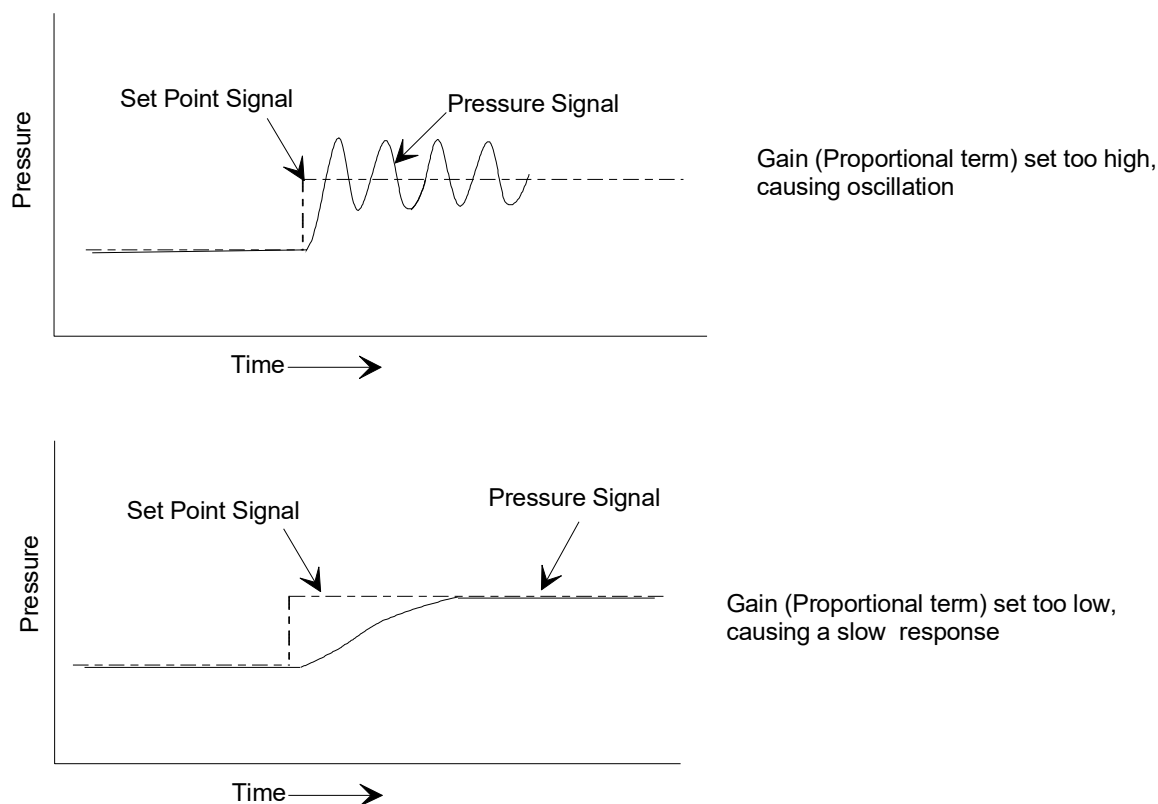

Figure 8 - Effects of the Proportional Control Term
The Proportional (P), or gain, term is used as a constant to create a valve drive signal that is proportional to the error signal. The error signal is multiplied by the proportional control setting, thus creating a proportional valve drive signal. The higher the proportional control, the greater the change in valve drive signal. Typically, a higher proportional control setting yields a faster response. However, too high a proportional control setting will cause the pressure to oscillate around the setpoint. Too low a proportional control setting will result in a slow response from the controller. Figure 8 shows the effects of the Proportional term.